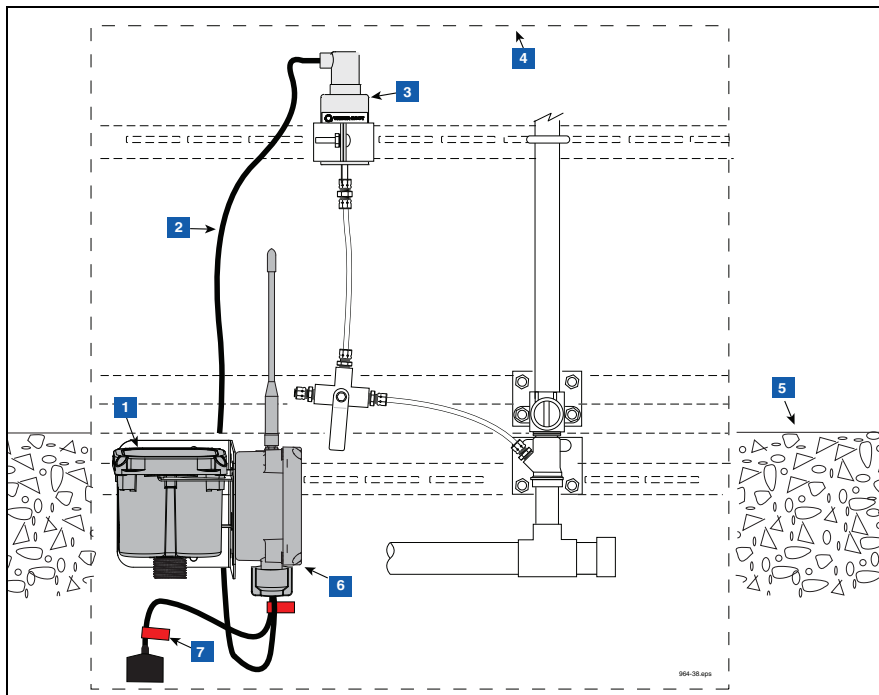

Figure 21. Example VPS Transmitter Installation in Dispenser
4. Rotate the Transmitter antenna as close as possible to a horizontal position then tighten two mounting screws in housing. (Transmitter shown in vertical position in Figure 21 to identify the connectors. Rotate to horizontal position before securing it to the bracket).
LEGEND FOR NUMBERED BOXES IN Figure 21